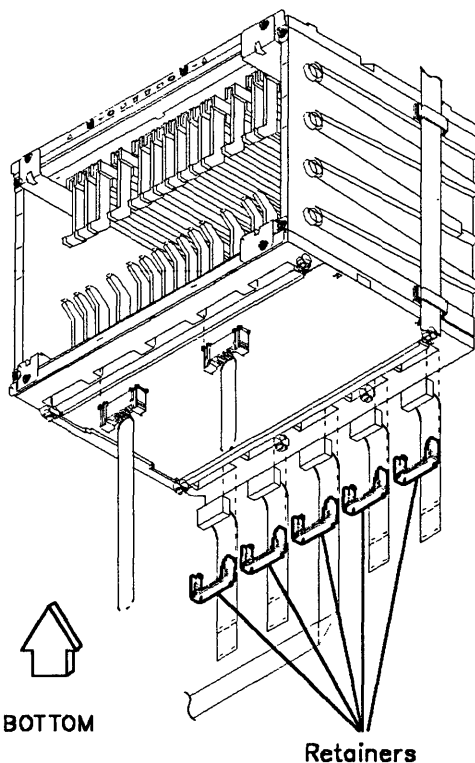

Figure 5-163. Lower view of the SAC Gate Assembly
- d. Refer to Figure 5-163. Check if the cables are labelled according to their positions, if not, label them. Remove the retainers and the cables from the Y and Z rows.
4. Refer to Figure 5-163 on page 5-163, then at the rear side, do the following :